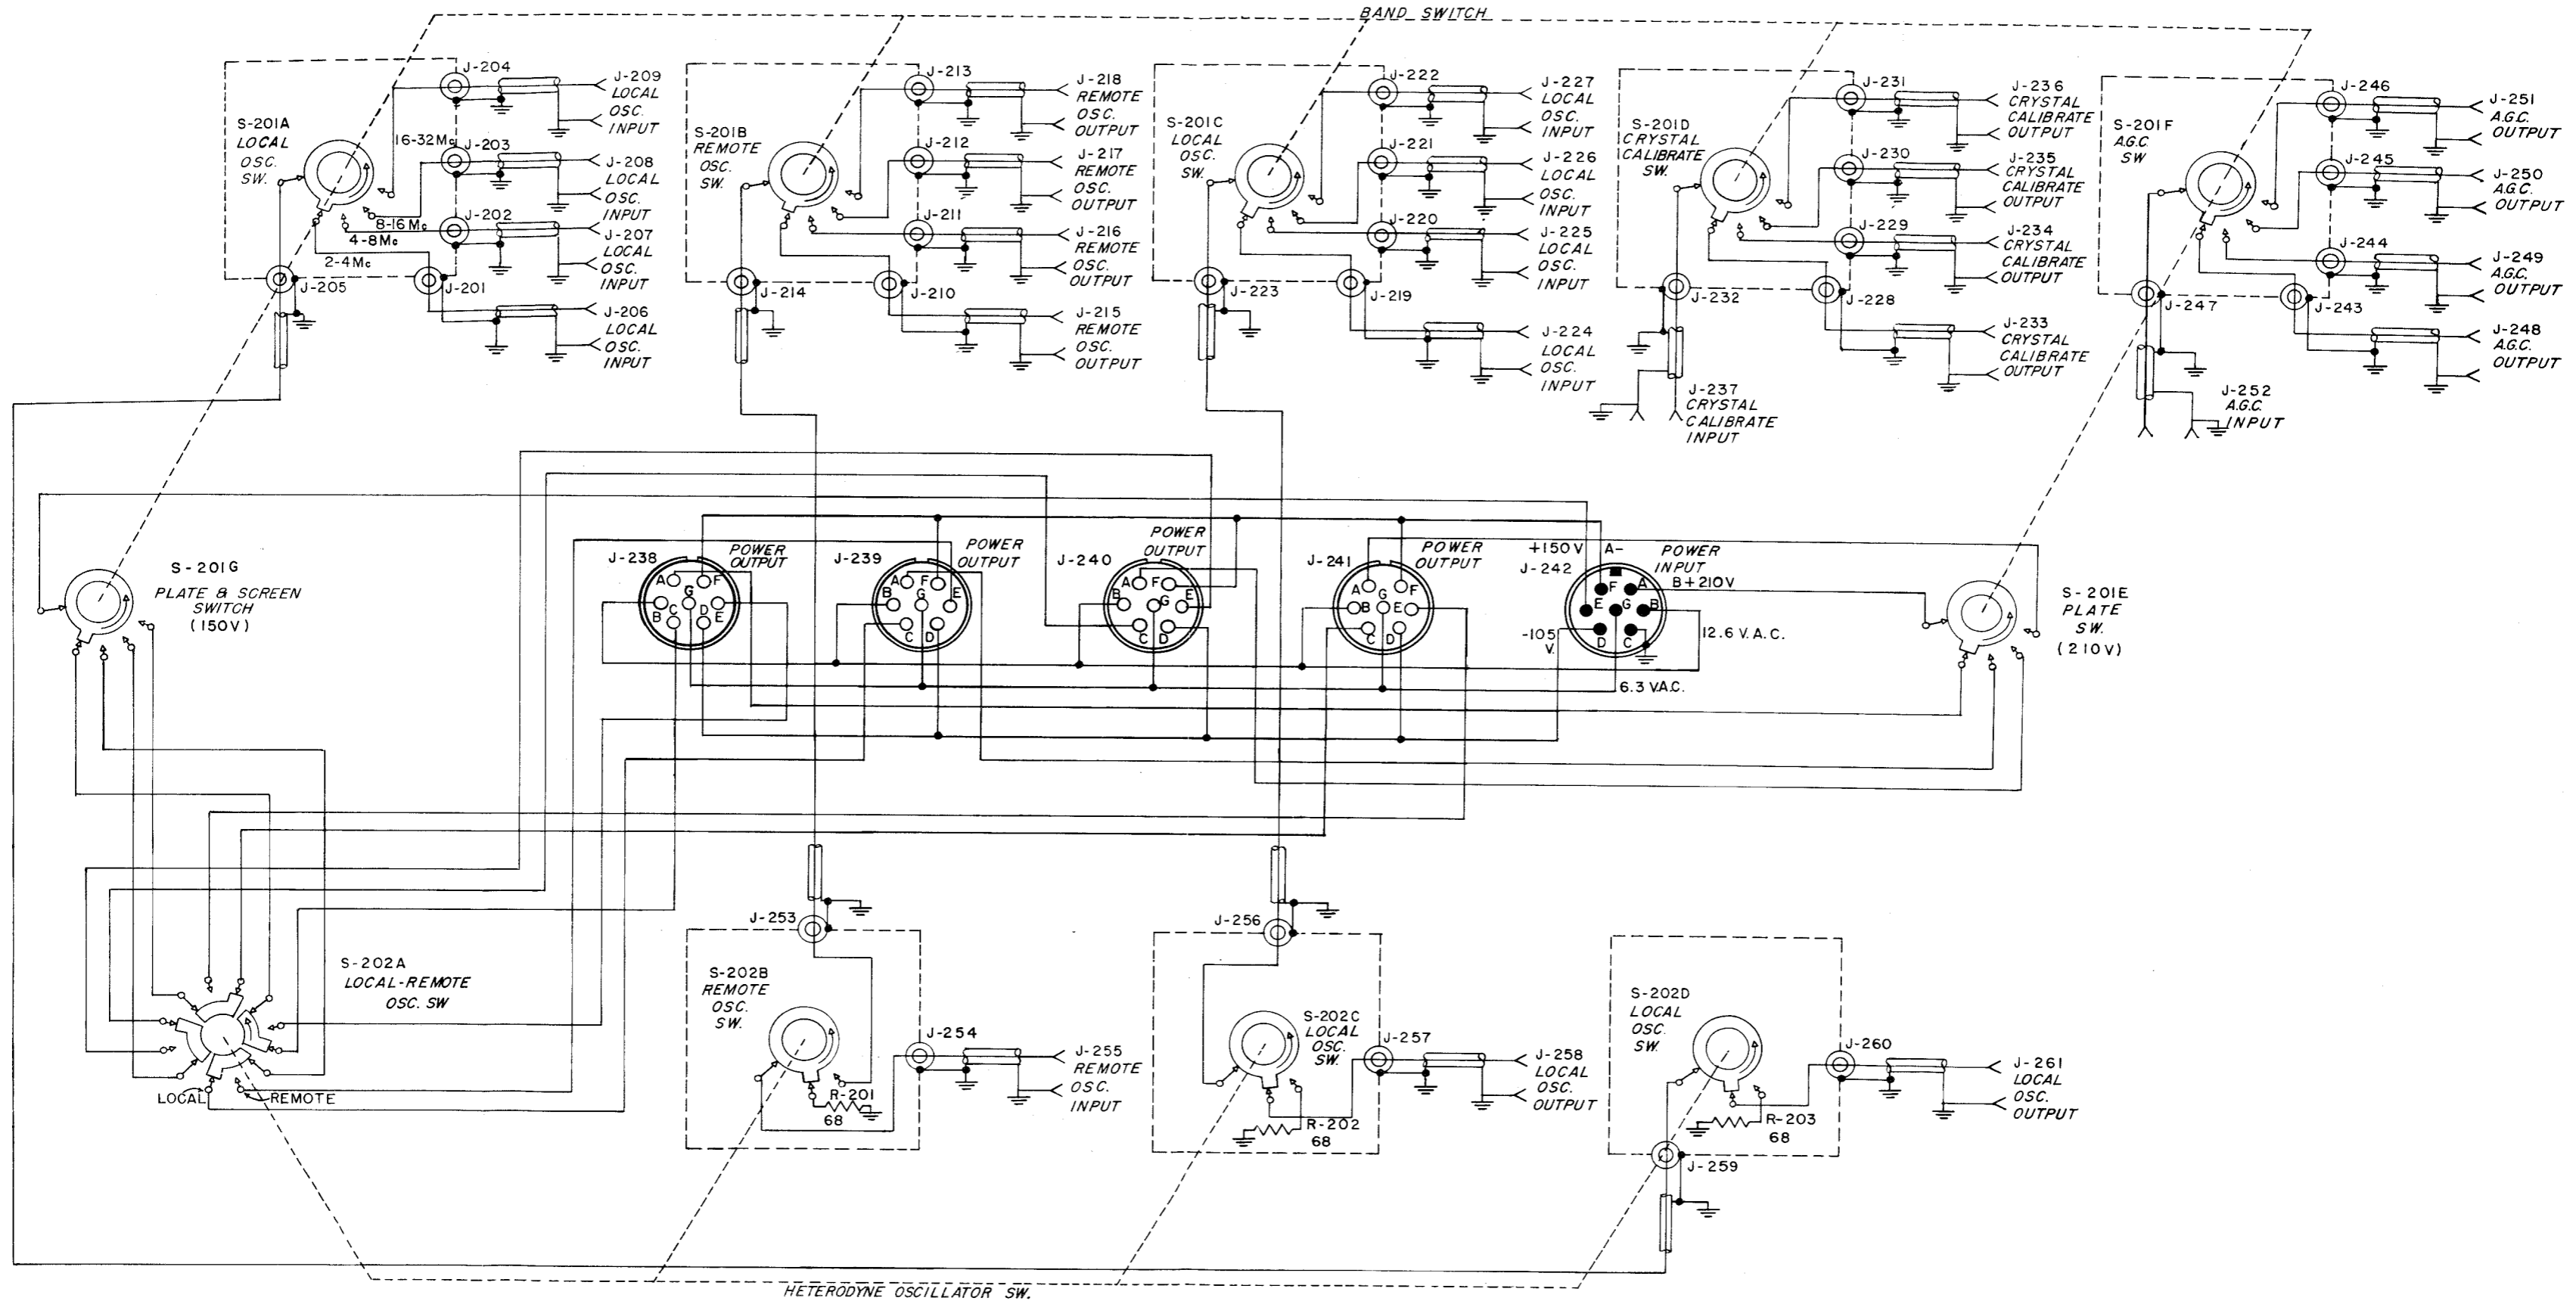

Figure 2-69. Control Panel SB-142/FRR-24, Schematic Diagram
r. CONTROL PANEL. (See Figure 2-69).—The Control Panel SB-142/FRR-24 provides a means of selecting which of the four Amplifier-Converter units shall be placed in an operative condition and also selects the source of oscillator excitation i.e., local or remote. In the local condition, oscillator voltage from the selected Amplifier-Converter is made available for patching into any other Amplifier-Converter unit of the same frequency range in another bay. In the remote condition, oscillator voltage from another source may be patched into the selected Amplifier-Converter unit. It also serves as an intermediate step in the application of power from Power Supply PP-590/FRR-24 to the four Amplifier-Converters.